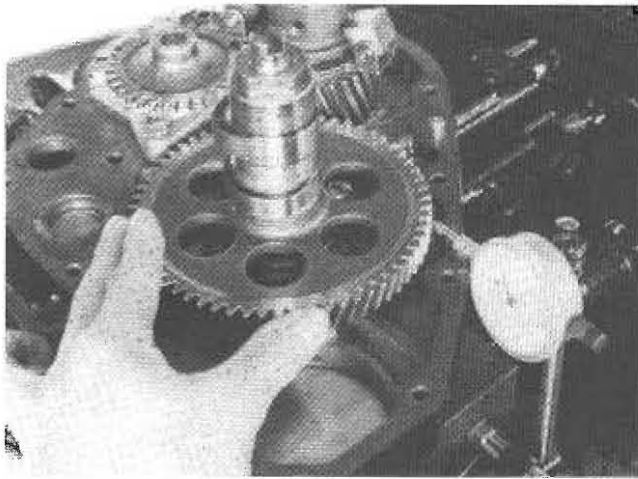

Fig 2-5 Checking Gear Lash
17. Check the timing gear lash at this point (Fig. 2-5). If the lash is within specifications, there is a good possibility the gears are reuseable. Standard crankshaft gear to camshaft gear backlash is .0034 to .0051 in. (0.086 to 0.13 mm). Standard oil pump to crankshaft gear lash is .0034 to .0051 in. (0.086 to 0.13 mm). If the lash is excessive, discard the gears.